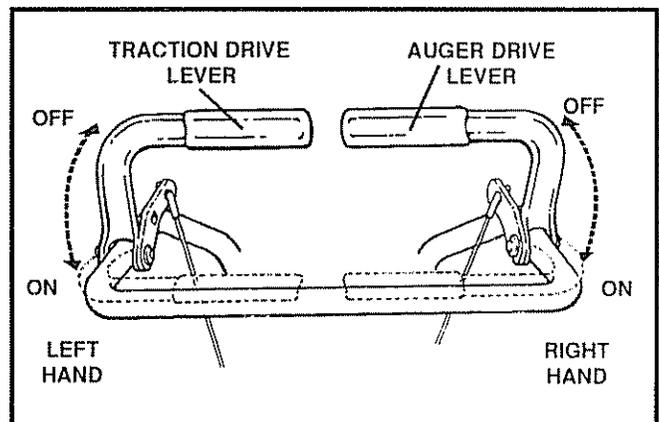

FIG. 11
- To stop throwing snow, release the auger drive lever (See Fig. 11).
- To stop the track, release the traction drive lever (See Fig. 11).
- Engage the traction drive lever (See Fig. 11, left hand). As the snow thrower starts to move, maintain a firm hold on the handles, and guide the snow thrower along the clearing path. Do not attempt to push the snow thrower.
- Push down the auger drive lever (See Fig. 11, right hand).